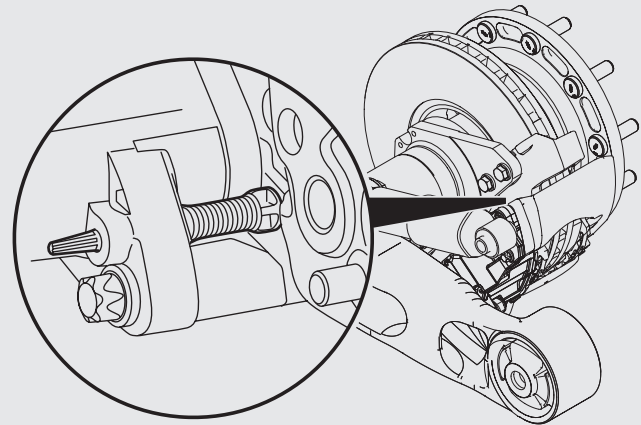

Fig. 1 Visual wear display on the housing of the brake caliper
- The visual brake lining wear indicator (Standard) (Fig. 1 to 3).